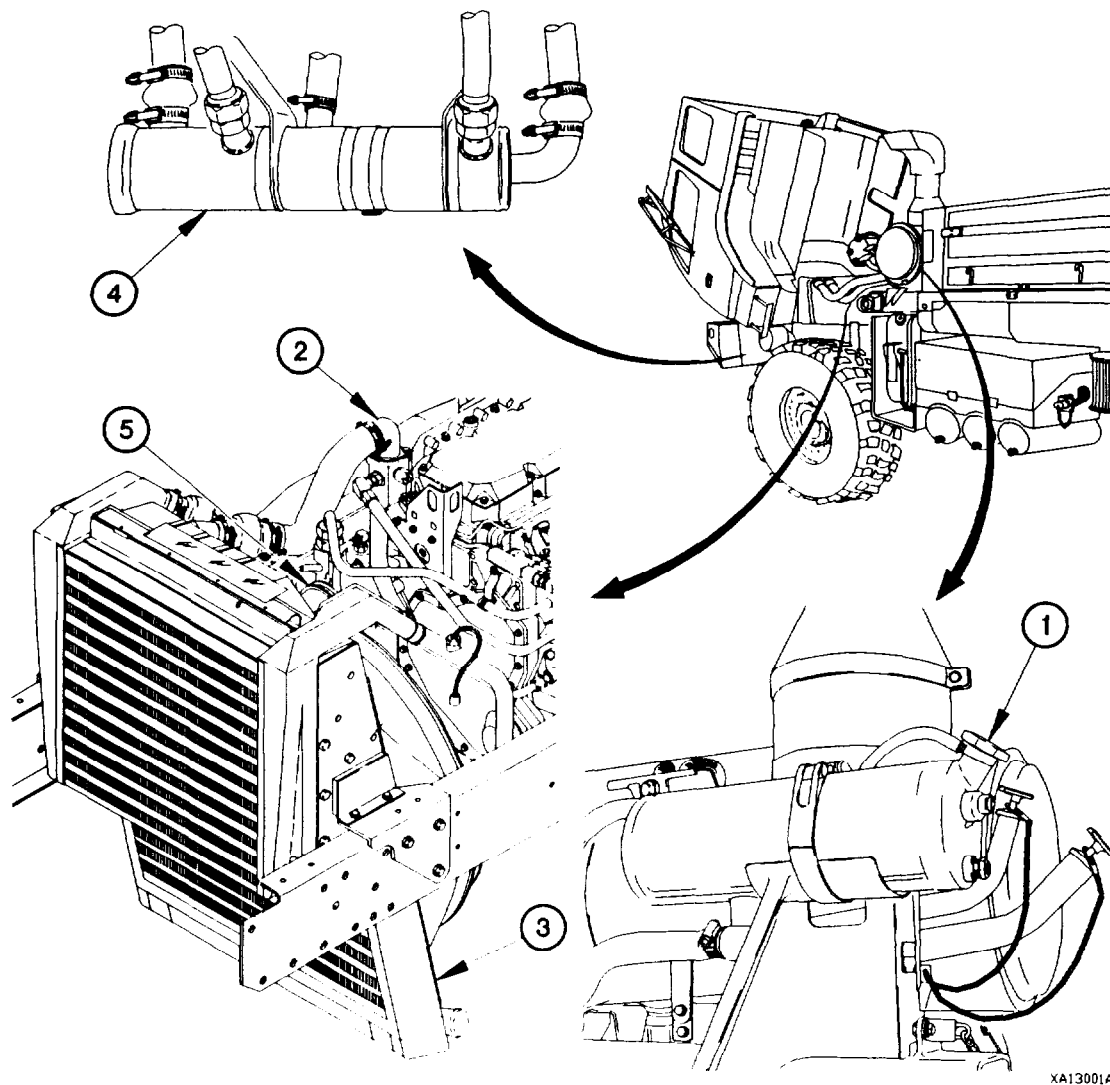

Figure 1-8. Cooling System
a. Cooling System. The pressurized cooling system protects the engine, transmission, and air compressor by providing a means of dissipating heat generated during operation of the vehicle. The radiator pressure cap (1, Figure 1-8), in combination with the ethylene glycol-based antifreeze, effectively raises the boiling point of the coolant to well above 212° F (100°C). The thermostat (2), located in a housing on the right side of the engine, helps the engine to warm up quickly by remaining closed until the coolant temperature reaches approximately 180°F (82°C). When the coolant reaches 199° F (93° C), the thermostat is fully open and coolant is circulated through the water jackets in the engine to maintain the correct operating temperature for the engine. Coolant is drawn from the radiator (3), through the transmission oil cooler (4), and circulated throughout the cooling system by the water *pump* (5). The water pump, located on the front of the engine toward the right side, is driven by two V-belts from the crankshaft pulley.